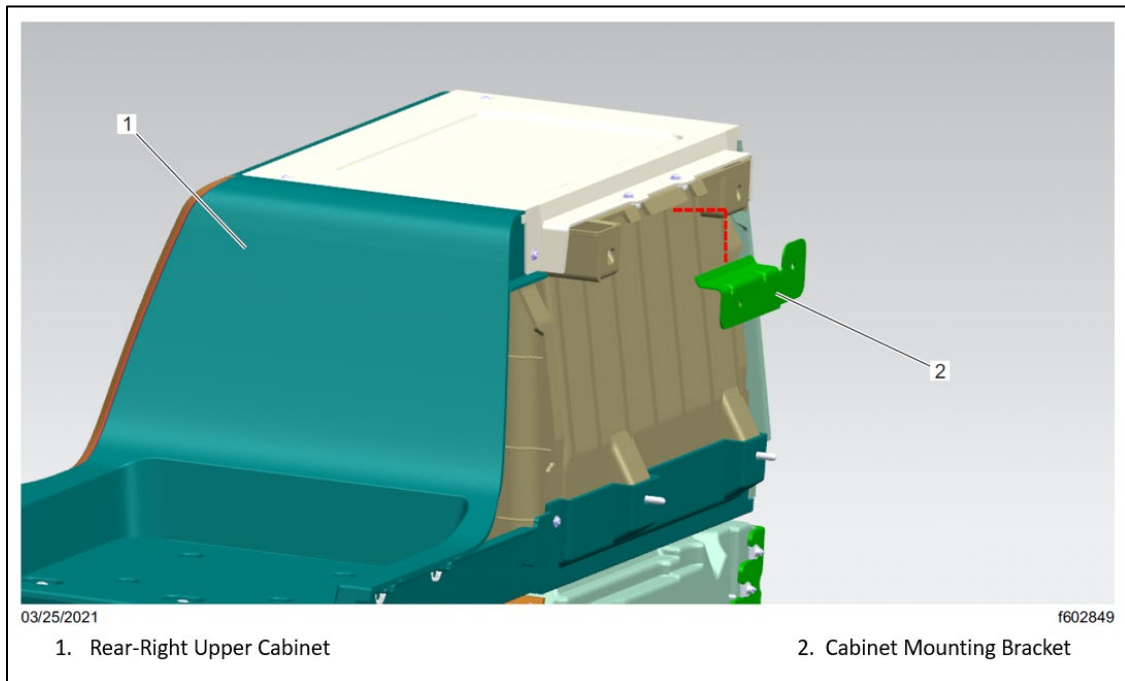

Fig.44, Unmounting the Rear-Right Upper Cabinet
- 7.2. Lift the rear-right upper cabinet until it releases from the cabinet mounting bracket, and then remove it from the vehicle. See Fig. 44.